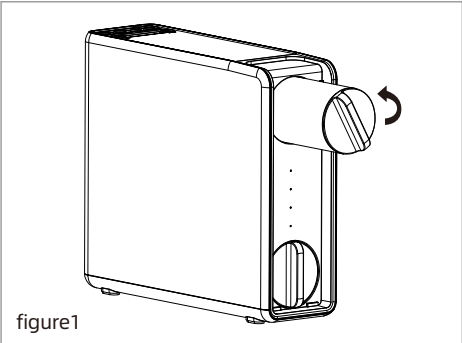

figure1
- c. Turn the filter that needs to be replaced anticlockwise and pull it out (figure1).